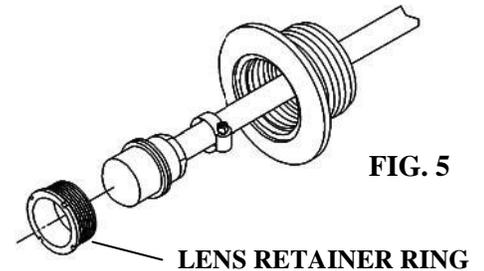

FIG. 5
2) Install the fiber through the lens housing and tighten lens retaining ring. **FIG. 5**